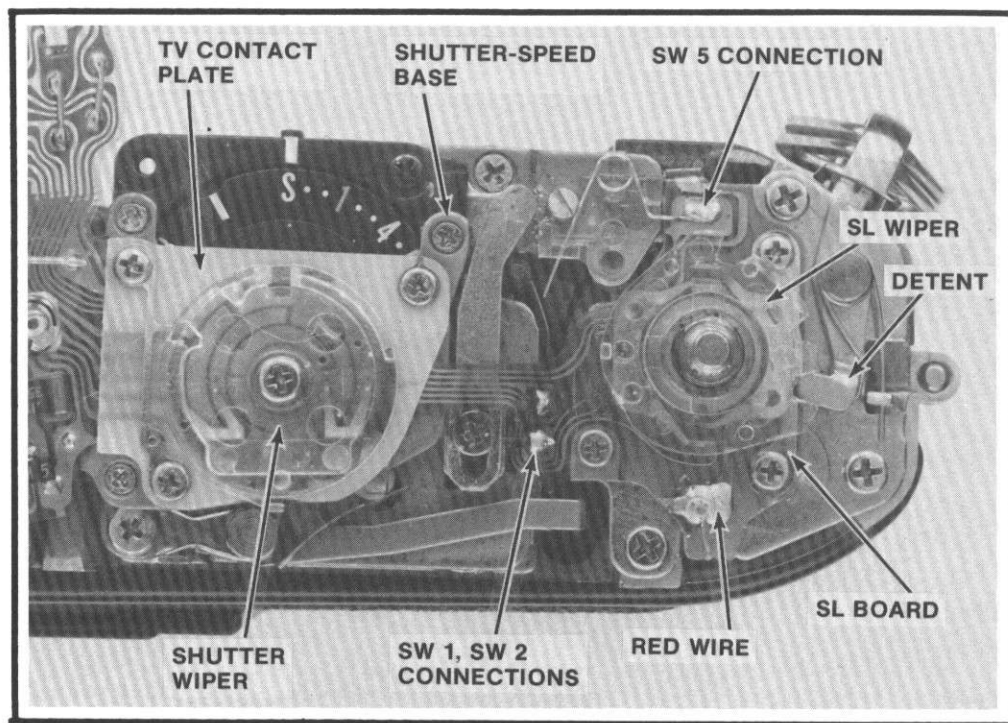

Figure 62
4. Unsolder the red positive-battery wire from the SL board, Fig. 62.
9. Unsolder the SW5 wire contact from the top of the flex, Fig. 62. Remove the SW5 wire contact to prevent loss.
11. Remove the shutter wiper by taking out its center screw, Fig. 62.
12. Remove the 3 screws holding the TV contact plate, Fig. 62.
13. Hold aside the detent, Fig. 62, and lift off the SL wiper.
14. Remove the 3 screws holding the SL board, Fig. 62.
16. Unsolder the SW1 and SW2 connections as you lift the SL board, Fig. 62.